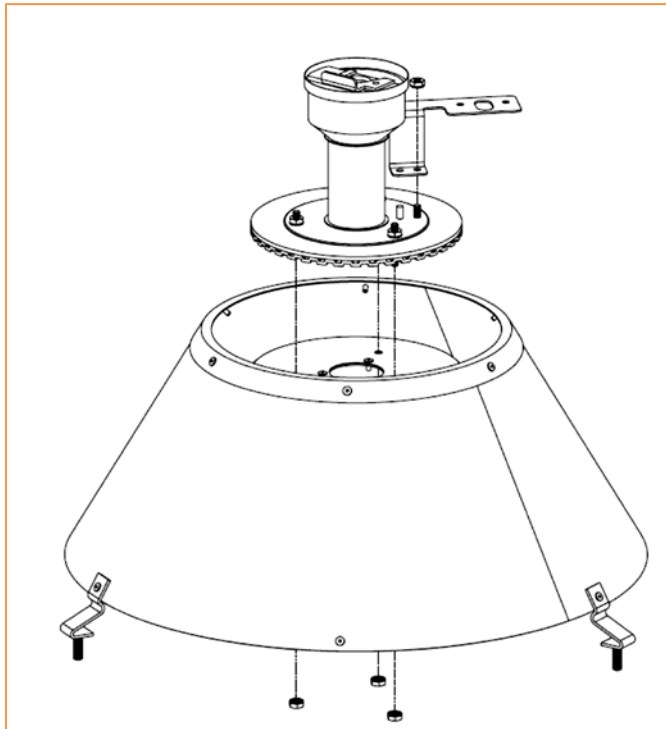

Figure 6
2. Fasten the burner assembly to the cone assembly using three (3) #10-24 hex locknuts, and attach the igniter bracket to the burner assembly using a #10-24 hex locknut, as shown in Fig. 6.